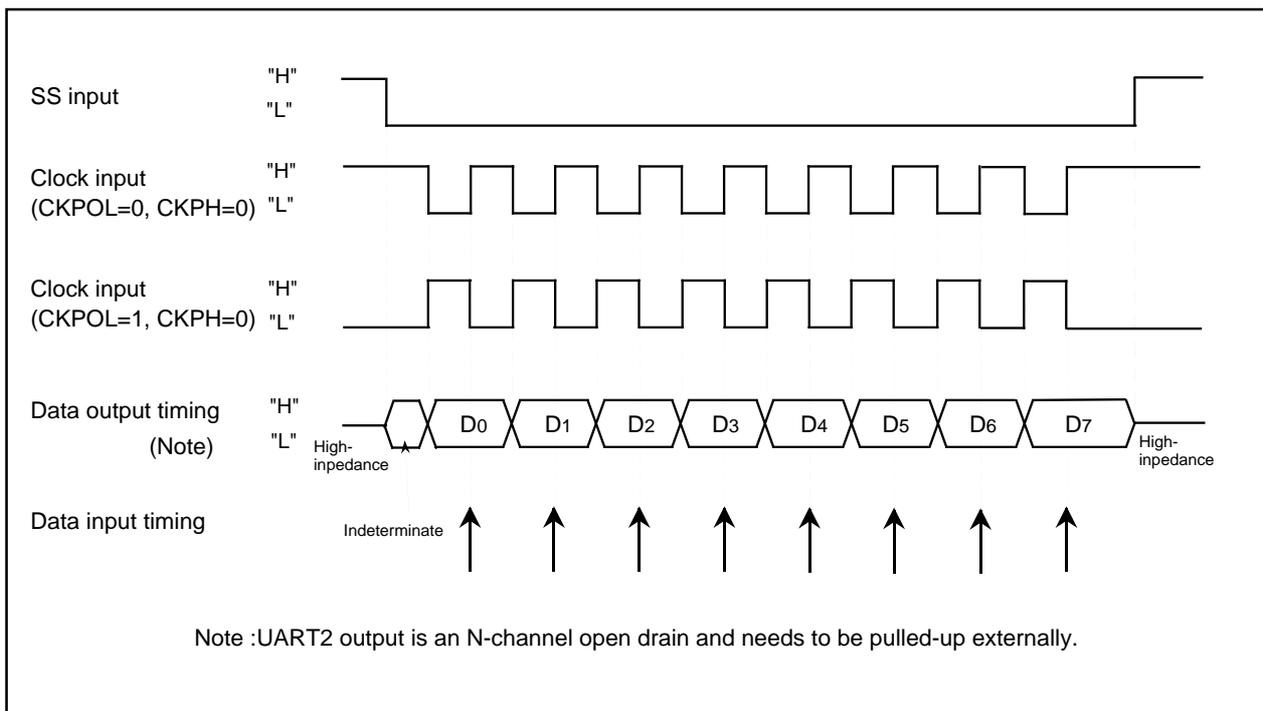

Figure 1.21.8. The transmission and reception timing (CKPH=0) in slave mode (external clock)
- With "0" for CKPH bit (bit 1 of UiSMR3 register), when an  $\overline{SSi}$  input pin is H level, output data is high impedance. When an  $\overline{SSi}$  input pin is L level, the serial transmission start condition is satisfied, though output is indeterminate. After that, serial transmission is synchronized with the clock. Figure 1.21.8 shows the timing.